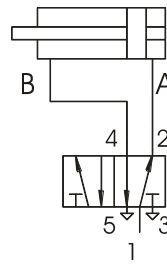

fig 5
Compressed air connection, fig 5, 6
1. Remove threaded stopper (1) on cylinder (2) and refit on parallel connection.
3. Connect pneumatic hoses as per diagram; fig 5.